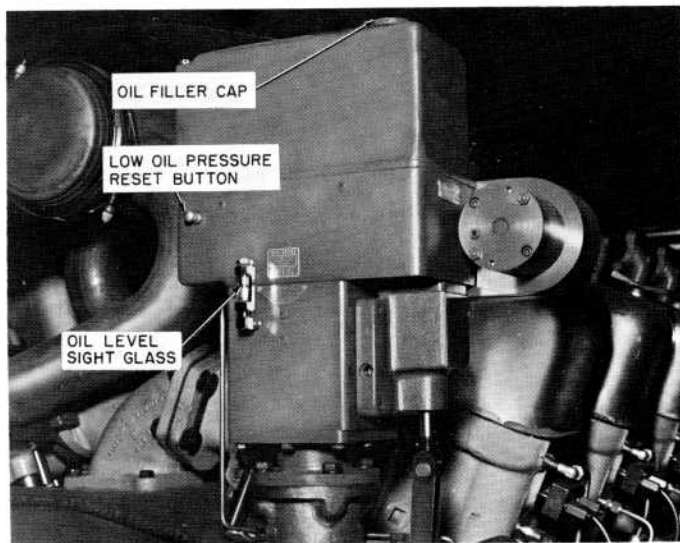

FIG. 13 - ENGINE GOVERNOR - PGR
Maintain oil level for PGR governor between lines on sight glass while engine is running (Fig. 13). The
3. Reset shutdown plunger on engine governor. Alarm bell will be silenced (see Fig. 13).